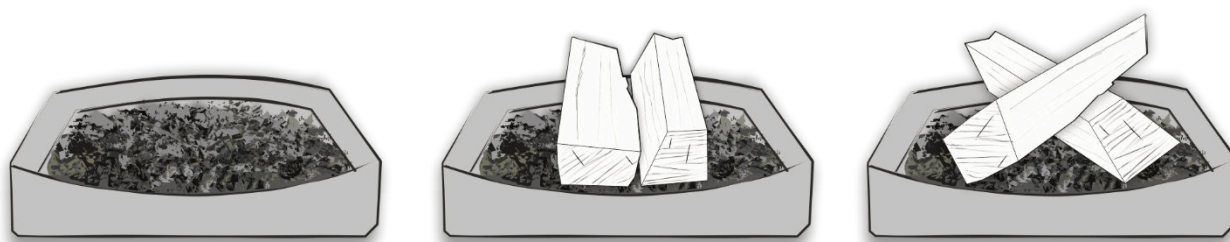

Fig. 8 – Reloading
- Open the door, add logs to the stove on the glowing wood residue and close the door – Fig. 8.